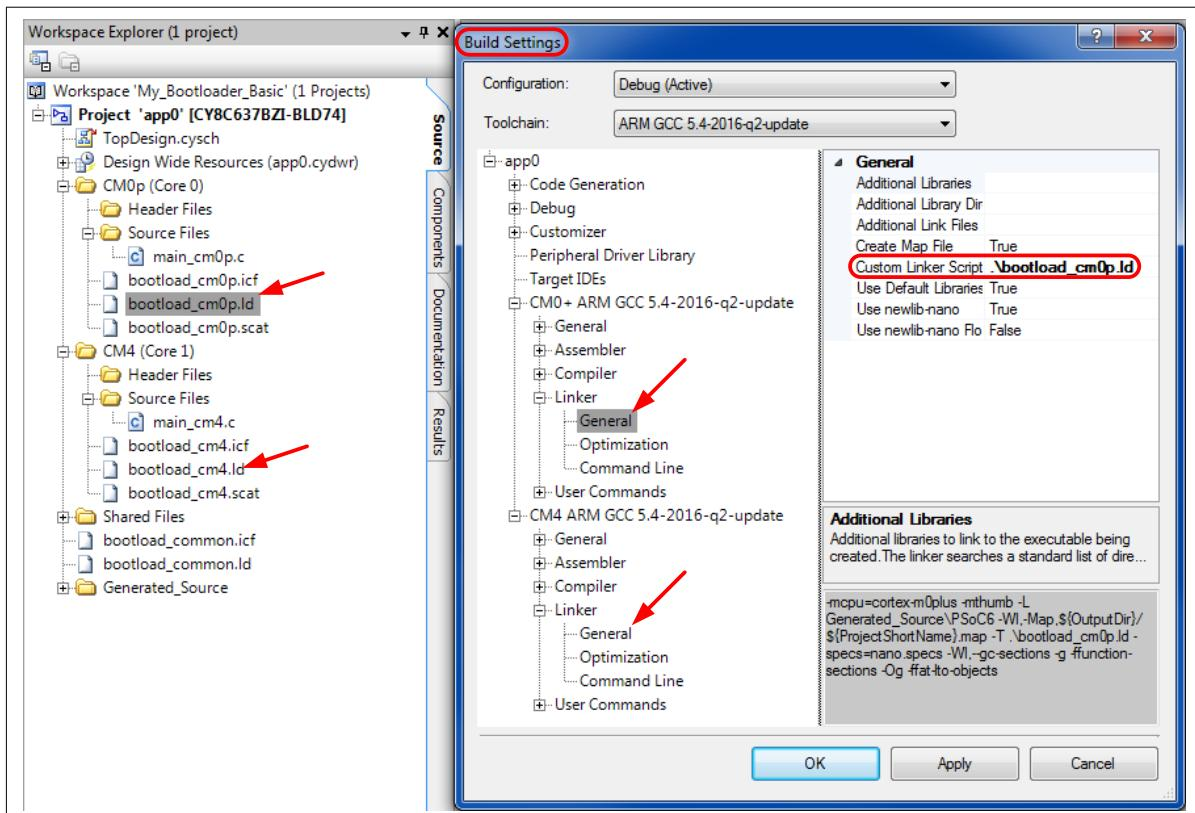

Figure 575 PSoC Creator project build settings for custom linker scripts
7. Change the Project Build settings to use the bootloader linker script files instead of the default linker script files. Select the `bootload_cm0p.ld` file for the CM0+ CPU, as Figure 575 shows. Include the relative path to the file. Select the `bootload_cm4.ld` file for the CM4 CPU (not shown in the figure)